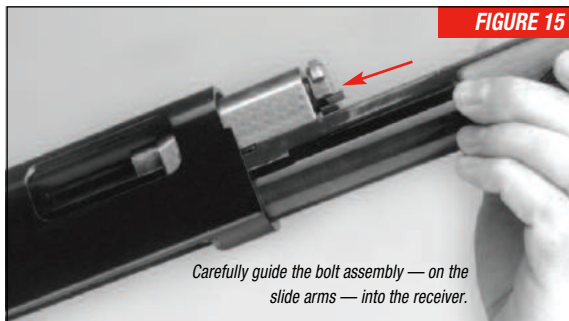

FIGURE 15
7. Remove the magazine cap and carefully guide the slide arms and bolt/slide arm bridge assemblies into the front of the receiver. As the assemblies enter the receiver, slide them fully rearward (Figure 15).